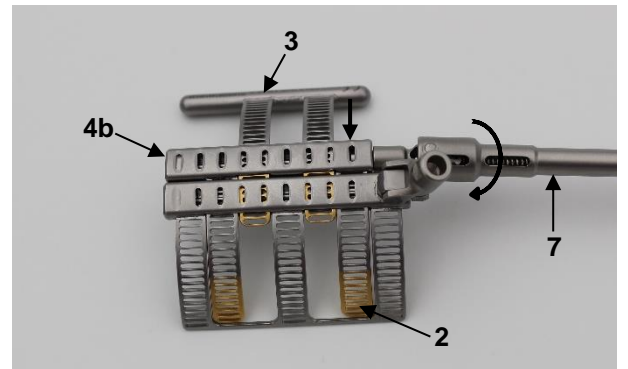

Fig. 5
Then retract the secondary element (3) using the appropriate screwdriver (7). To do this, turn the transport mechanism on the box module of the primary element (4b) counterclockwise using the screwdriver (7) (Fig. 5).